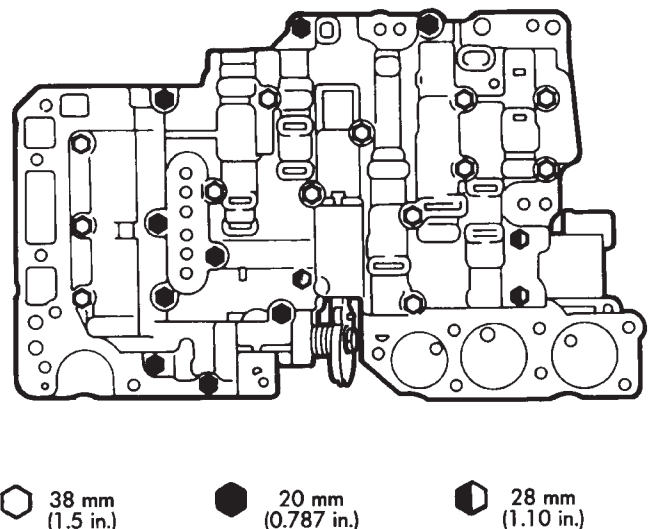

Fig. 3 Valve Body Bolt Location/Size
- (4) Install valve body bolts. Three different length bolts are used. Refer to the Figure 3 for bolt locations. Chart symbols indicate bolt location and length in millimeters.